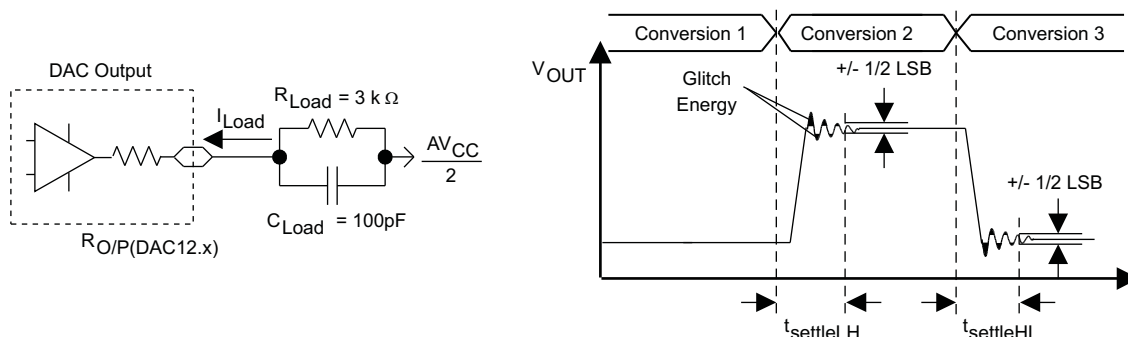
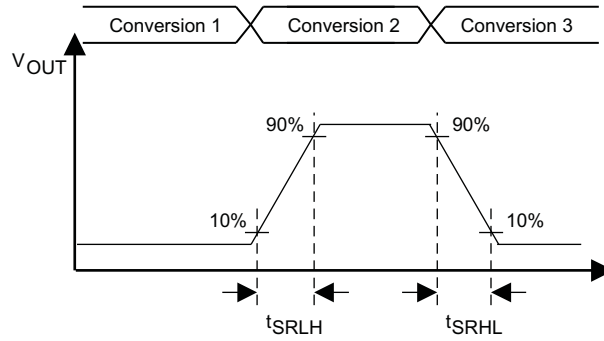

Figure 5-25. Settling Time and Glitch Energy Testing
Figure 5-26. Slew Rate Testing
V_{ref} = V_{CC}, DAC12IR = 1, over recommended operating free-air temperature range (unless otherwise noted) (see Figure 5-25 and Figure 5-26)
- (1) R_{Load} and C_{Load} connected to AV_{SS} (not AV_{CC}/2) in Figure 5-25.
- (2) Slew rate applies to output voltage steps ≥ 200 mV.